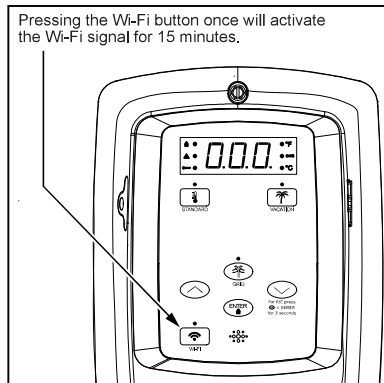

Figure 21 - Wi-Fi Control
**1** To activate the Wi-Fi signal, press the Wi-Fi button once. The LED will blink on and off in 0.5 second intervals. Wi-Fi will activate pairing mode (Figure 21).